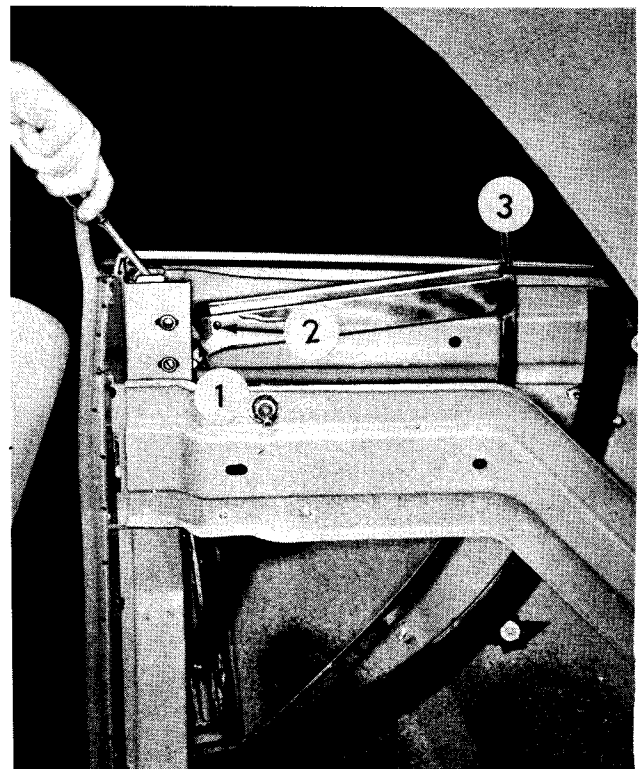
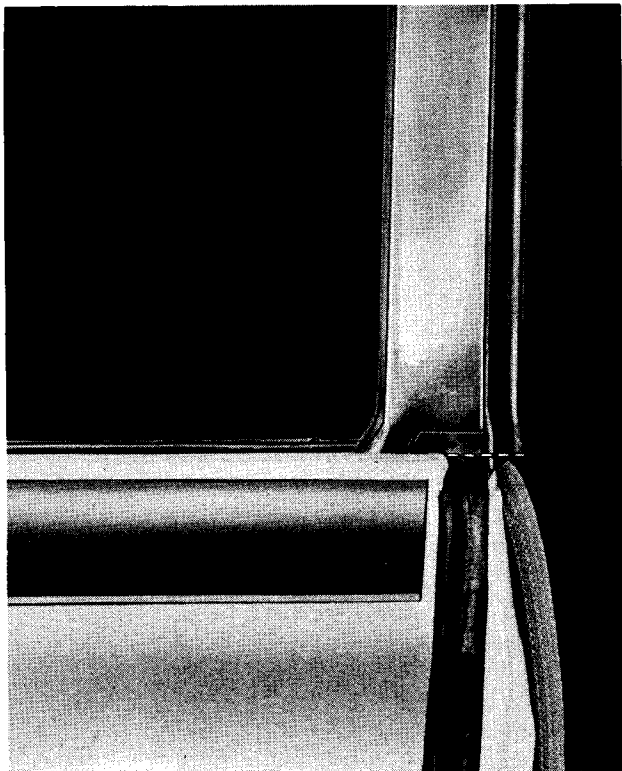

FIG. 8
FIG. 9
If the weatherseal is torn or will not hold in the retaining grooves of the window frame, it should be replaced. To remove the rear quarter window weatherseal, the trim panel must be removed. Roll the window down to its full open position. Then, remove the weatherseal-to-frame screws (1 and 2, Fig. 8). Remove the weatherseal rivet (3) and pull the weatherseal out of the retaining grooves. To install the weatherseal, place the lower end of the seal in position in the frame and insert the weatherseal in the grooves of the frame. Install the weatherseal-to-frame screws (1 and 2, Fig. 8). Using an awl, make a hole in the upper end of the weatherseal to correspond with the hole in the frame. Then install the retaining rivet. Trim the upper end of the weatherseal so that it is flush with the top of the frame. Trim the lower end as indicated by the dotted line in Figure 9. The lower end of the seal should bear against the top of the door but must not be pulled inward as the door is closed. If the end of the weatherseal is pulled inward, an opening will result which will permit water to enter.